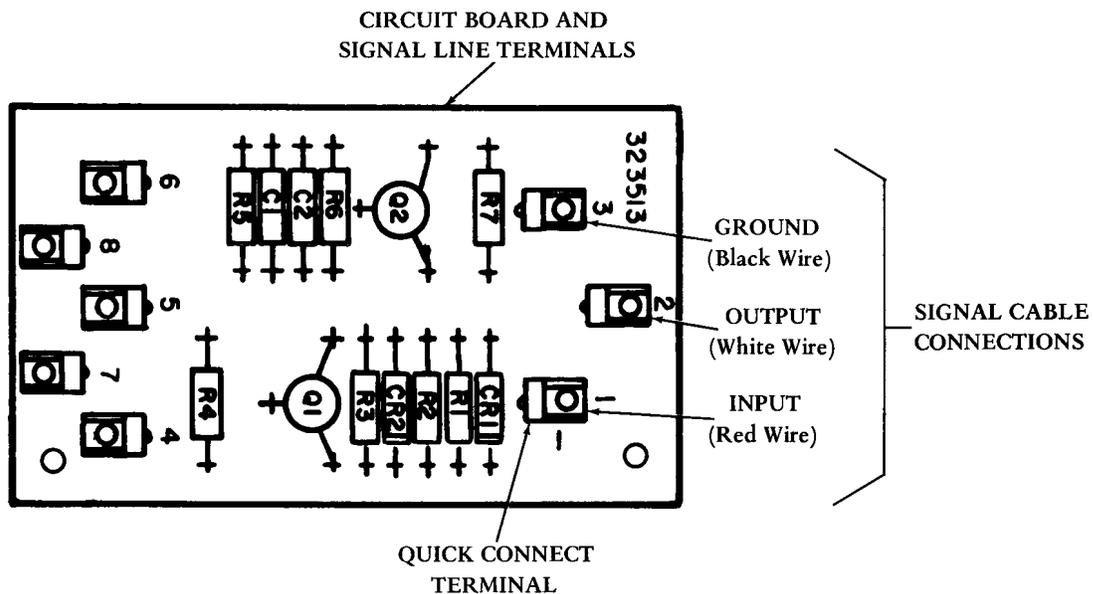

Figure 3 - Signal Line Connections to Interface Amplifiers (TP323513) of Base (TP320001) for Current/No Current Operation
1.13 The current/no current (neutral) input of an SA120 with a TP320001 base plate (Figure 3) accepts data from either a 101C or 105A type of data set and converts it into suitable bipolar voltage signals for use by the SA120. A -14 volt source at the SA120 input provides for a 30 ma current loop.